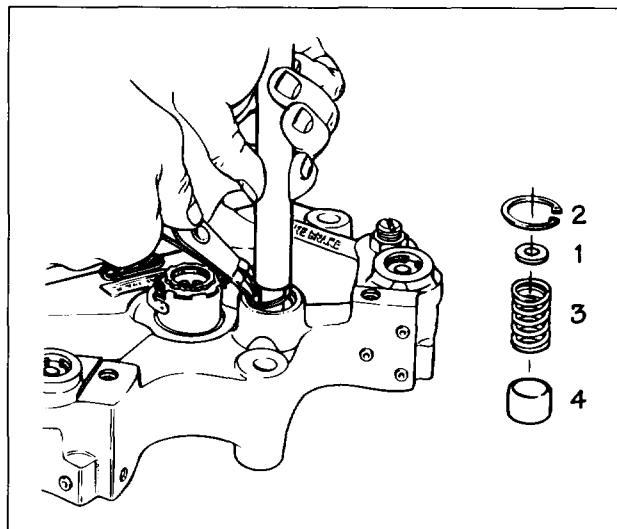

FIG. 25
1. Push down on the accumulator cover (1) using the appropriate diameter rod. Remove the retaining ring (2) using retaining ring pliers (see Fig. 25).
2. Slowly remove the accumulator cover until spring pressure ceases, then remove the cover and spring (3).